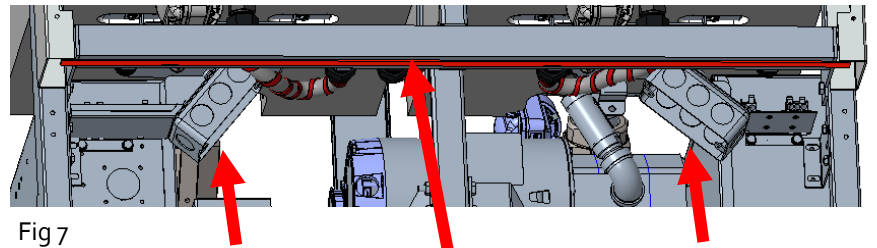

Fig 7
10. Mount handy boxes in location shown on rear of contactor boxes above the power cords (Figure 7).
11. Using one of the 36-inch heaters from the kit and a length of foil tape, add heater to bottom side of manifold, wrapping extra length around the ends and over the top securing in place with foil tape. (Figure 7).
fold, wrapping extra length around the ends and over the top securing in place with foil tape. (Figure 7).